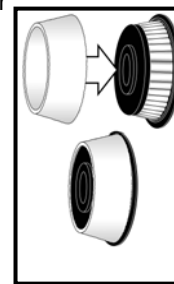

Fig. 16
1. Around the HEPA filter there is a filter ring. This is washable in lukewarm water. (Fig. 16) To remove the filter ring, slide it off the HEPA filter.